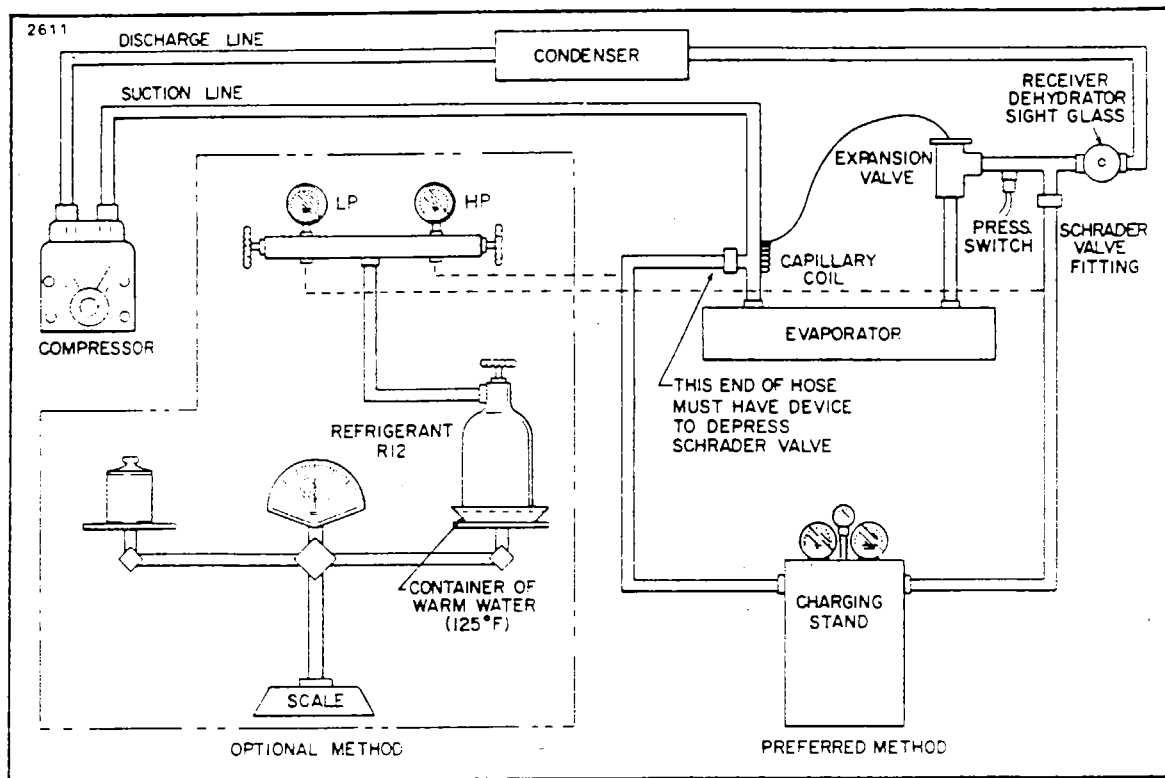

Figure 13-8. Charging Hookup
- a. With the system discharged and evacuated, proceed to hook-up the charging stand. (Refer to Figure 13-8.)
- a. With the system evacuated as outlined in paragraph 13-13, connect the refrigerant charging hose to the manifold (refer to Figure 13-8) and purge the charging hose of air.
- b. Connect a charging hose to a refrigerant cylinder and also to the Schrader valve fitting on the suction line. (Refer to Figure 13-8.)